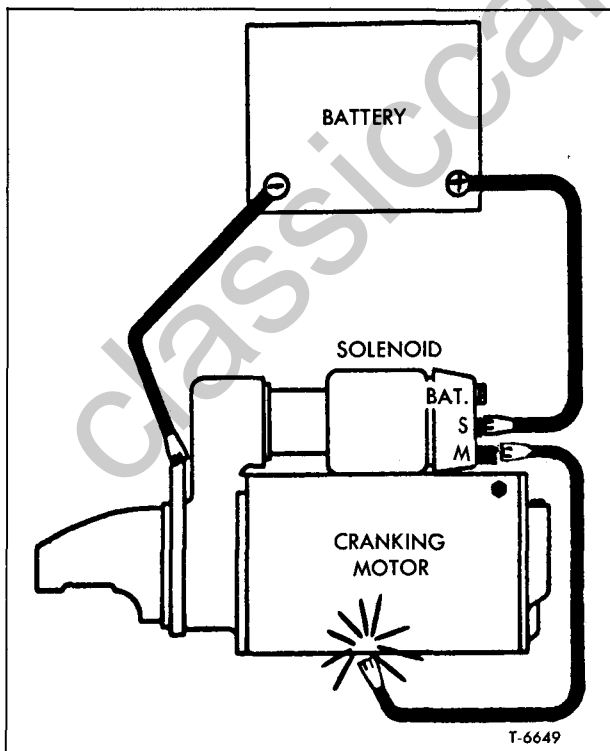

Figure 5—Circuit for Checking Pinion Clearance
b. **IMPORTANT:** DO NOT connect the voltage source to ignition coil terminal (R) of the solenoid. Do not use a 12-volt battery in place of the 6 volts specified as this will cause the motor to operate. As a further precaution to prevent motoring, connect a heavy jumper lead from the solenoid motor terminal to ground (see fig. 5).